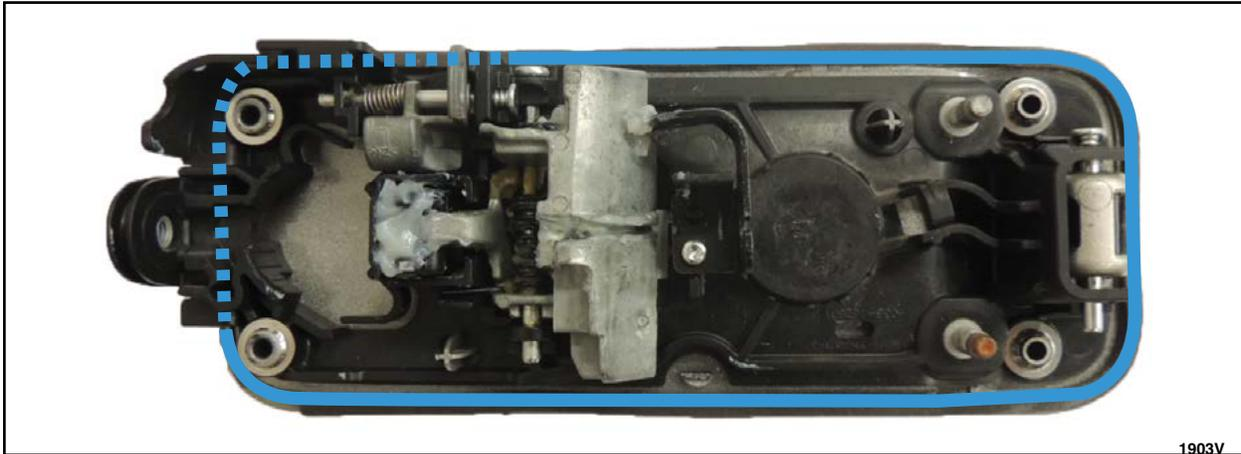

FIGURE 31
14. Thoroughly remove the existing Foam Tape K and the TA-30 silicone sealant from the latch side area of the rear door exterior handle. Using a clean shop cloth and isopropyl alcohol, clean the highlighted mating surface area of the exterior door handle. See Figure 31.